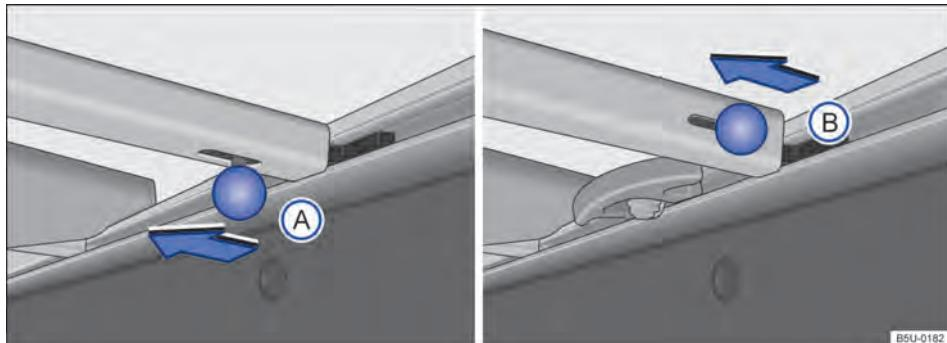
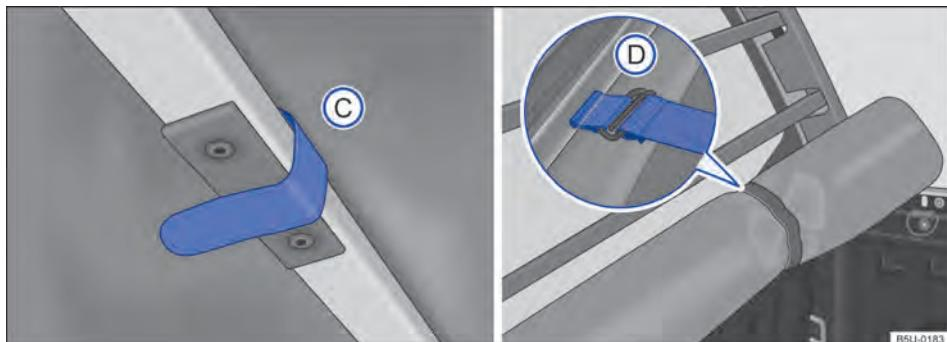

Fig. 50 Luggage compartment cross struts: **(A)** vehicles with fixed strapping supports, **(B)** vehicles with sliding strapping supports.
Fig. 51 On the bed: fastening strap and bed canvas properly retracted.
- To remove the type **(A)** or **(B)**, move the locking pin in the direction of the arrow → **Fig. 50**. To remove the beam near the rear window, the fastening straps of the bed canvas → **Fig. 51** **(C)** must be released.
- After fully retracting the canvas, secure it with the fastening straps ④.
- To remove the cross member near the rear window, the fastening straps of the bed canvas → **Fig. 51 ④** must be released, and repeat the same previous procedure to remove the cross member (when more than one cross member is available).
- Once the cross member is fully retracted, secure it using fastening straps → **Fig. 51 ④**.